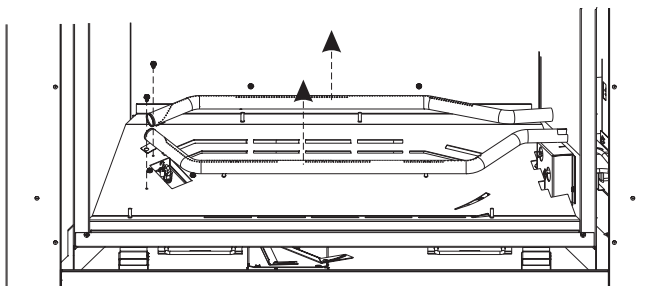

Figure 2
3. Remove front and rear burners by removing screws on left and pulling out towards left side. (Figure 2)